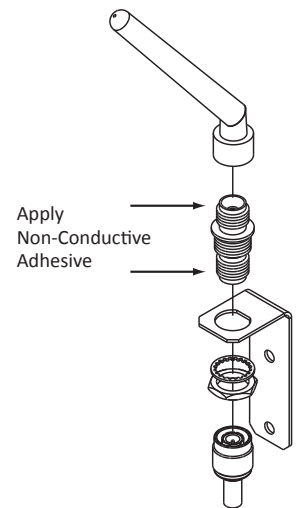

Fig. 8 Antenna Bracket Assembly Wall Mounted
- Wall Mount (Fig. 8).
3 Attach TNC panel mount connector (C) and secure both the antenna and the extension cable (E) to the antenna extension bracket (A) by using a non-conductive adhesive on the threads of both sides of the TNC Panel Mount Connector (Fig. 8).